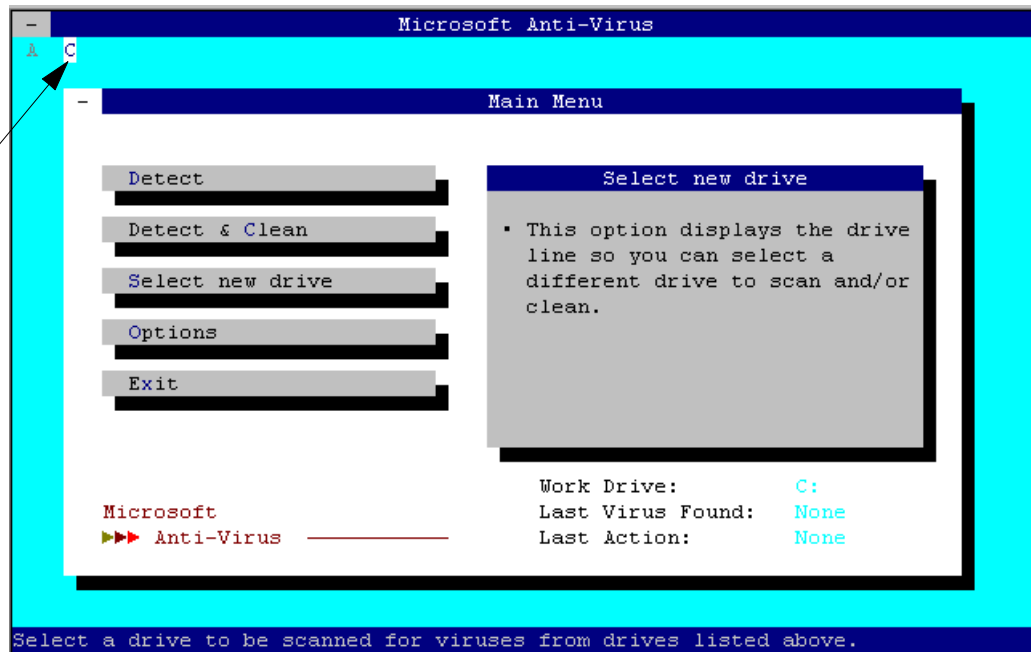

Figure A.23 Selecting the C Drive
6. Click the letter **C** (Figure A.23). The program will read the directories.